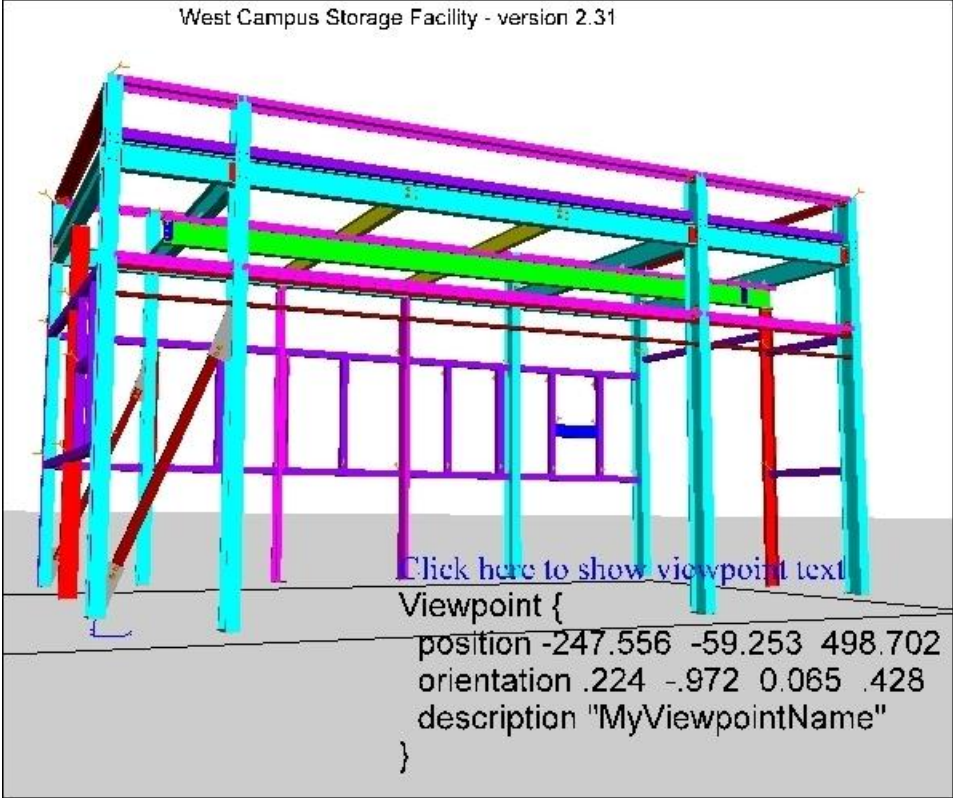

Figure 21: VRML model with viewpoint text
4. Click the “Translate and Display” button. An example VRML model with the viewpoint text is shown in Figure 21. As the VRML model is rotated, the values for the position and orientation will update. For each user-defined viewpoint, the exact text from and including ‘Viewpoint {’ to the ending ‘}’ must be entered in the viewpoints file. In this example, the text is: